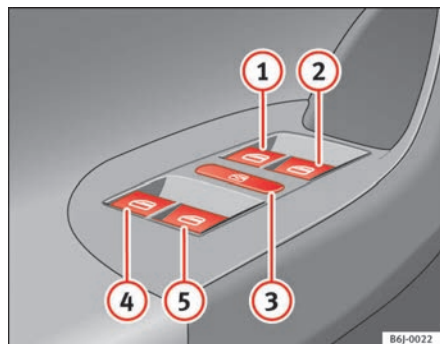

Fig. 49 Detail of driver door: controls for the front and rear windows
Buttons ⇒ page 84, fig. 49 ①, ②, ④ and ⑤ have two positions for opening windows and two for closing them. This makes it easier to open and close windows to the desired position.